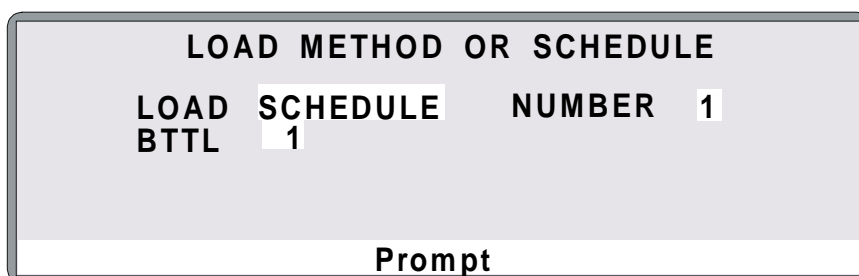

Figure 3-20. Load Method or Schedule Screen
2. Press a **Select** button to toggle to **LOAD SCHEDULE** (see Figure 3-20).